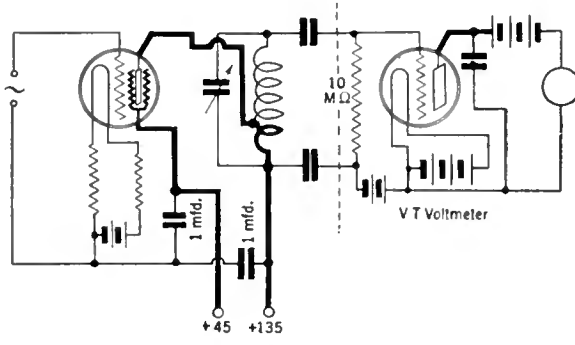
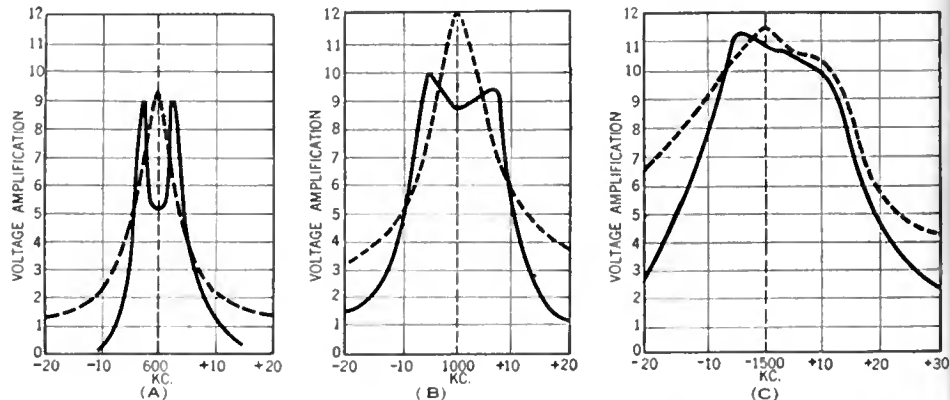

FIG. 7
FIG. 6
plished by disconnecting the primary condenser, $C_1,$ and tuning the secondary to resonance with the desired wave, then disconnecting the secondary condenser, $C_2,$ and tuning the primary. It was necessary to use a strong signal from the oscillator while tuning in this manner as the transfer from one coil to the other was very low. After tuning each circuit independently, both condensers were connected and the curve for a particular frequency measured. These curves were taken at 600, 1000, and 1500 kc., and are shown in the full lines of Fig. 6. It will be noted that they check very well with the theory of the circuit, for in the 600 kc. curve Fig. 6A, we have the two resonant humps lying very close to 3 kc. off resonance on either side while in the 1000 kc. curve, Fig. 6B, they are 5 kc. off the normal resonance of the individual circuits. The 1500 kc. curve did not turn out as well, although the separate resonances can still be distinguished. It will be noted that the curve at 1000 kc. compares very favorably with the ideal curve as the amplification varies very little in the 5 kc. pass band either side of the carrier. Attention is called to the variation with frequency in the width of the band passed in the three curves, which was predicted in equation (1) to which we will refer later.
In order to compare the shapes of the band curves of Fig. 6 with the performance that would be obtained when using the same tube, coupling, and coils in Fig. 7, the secondary circuit was removed and the measurement repeated with the single circuit shown in Fig. 7. These curves are plotted in dotted lines in Fig. 6 so they may be compared with the band-pass filter performance. It will be noted that at each measured frequency the selectivity of the band circuit is greater than the ordinary resonant circuit and that the amplification is about on a par, one with the other.
Other curves were checked using the whole primary coil for coupling to the tube. It was found that the curve shapes remained substantially the same as shown in the full lines of Fig. 6, but the amplification went up to an average of 30 per stage.
The dotted curves in Fig. 6 were taken with this circuit, which is an auto-transformer in which part of the coil is used as primary and all of it as secondary.